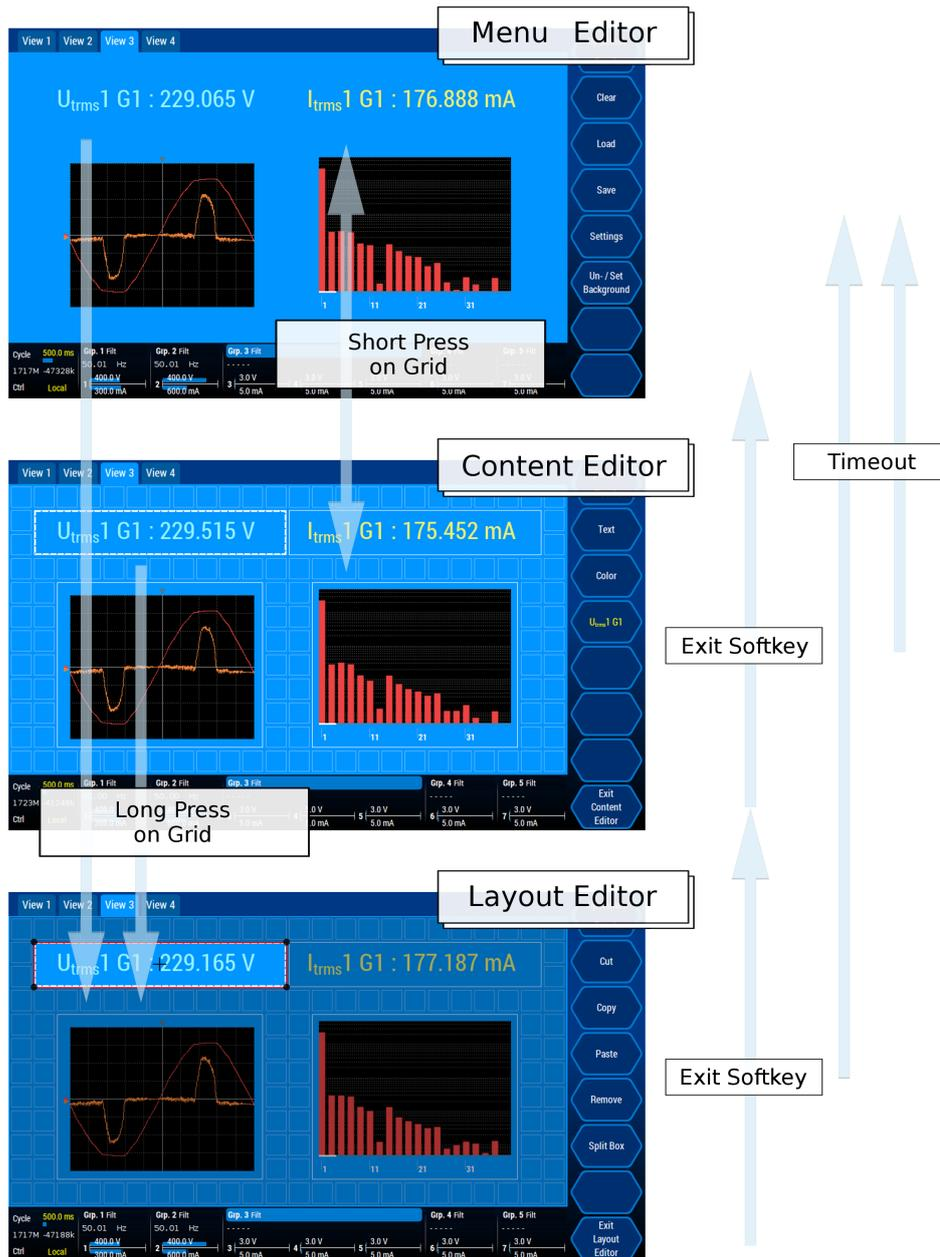

Figure 7.15: The different edit level of the custom menu.
The custom menu has different edit level which are specialized for specific tasks such as modifying the layout, adding new content, and viewing. Navigation between these level is done as shown in Figure 7.15 [→165]. Following lines assume that the top softkey <Mode> is set to “Edit”. If <Mode> is set to “View” the menu can be used without the risk of accidental modifications.
- The **Menu editor** (See top of Figure 7.15 [→165]). Here the grid is hidden. The softkeys provide functions affecting the complete menu like setting a background image, loading, saving, and reset functions.
- A short tap on the grid activates the **Content Editor** (See center of Figure 7.15 [→165]). Here the grid with all cells along with the content is shown. Returning to the menu editor (top of Figure 7.15 [→165]) is possible by short tapping on the currently selected cell (white dashed border), by <Exit Content Editor> or automatically following a timeout of approx. 30 seconds after the last action.
- A long tap on the grid (in menu editor or content editor) activates the **Layout Editor** which allows to modify the layout or content (See bottom of Figure 7.15 [→165]). On this level the selected cell is highlighted and the remaining menu is shaded. By tapping in the shaded area, any cell can be highlighted to work with. In this level the softkeys provide the *content specific* functions cut, copy, remove, and paste and *layout specific* functions like splitting large cells into single cells. A timeout after the last action returns to the menu editor (top of Figure 7.15 [→165]). Using <Exit Layout Editor> will show the content editor (center of Figure 7.15 [→165]).